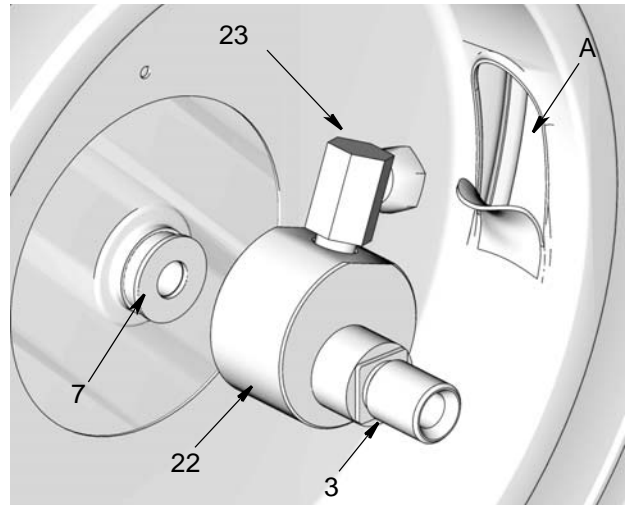

**FIG. 12**
3. Install ratchet (59) to side of spool using screws (48) (FIG. 12).